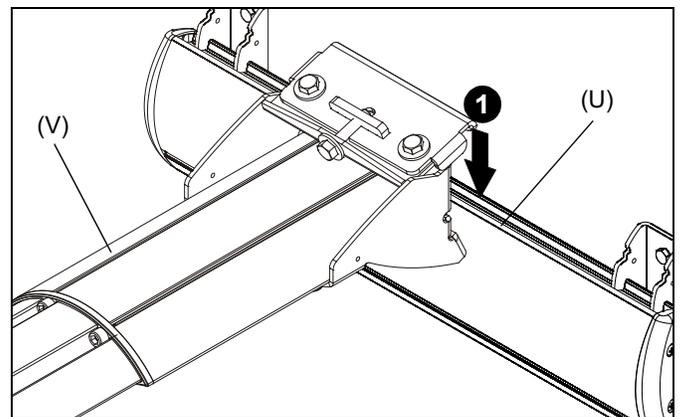

Figure 8
**NOTE:** The projector mount assembly (V) ships with the boom arm pre-set to the correct depth. However, depth adjustment may be necessary dependent upon wall's vertical plane.
- Lift projector mount assembly (V) up to projector mount wall bracket (U) and hook top edge onto cross plate of wall bracket. (See Figure 8)